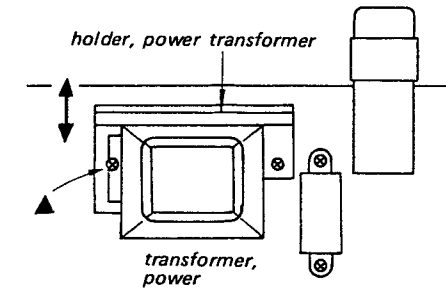

Fig. 9-11 Power transformer position adjustment
- (1) Playback the 2nd tone (400 Hz) of the SONY alignment tape J-19-F₁ or J-19-K₁ and be sure that the VTVM reading is 0 dB. If not, make the p.b. output level adjustment again.
- (2) Set the machine at 19 cm/s (7½ ips) tape speed in FWD mode with no tape, by pushing the shut-off lever with finger.
- (3) Be sure that the VTVM reading is less than -49 dB (3 mV).
- (4) S/N ratio will change by reversing the sense of motor and by moving the position of the power transformer. Therefore, select the connection of the joint terminals connected to the motor leads and adjust the position of the power transformer by loosening the screw marked with ▲ in Fig. 9-11 for the best S/N ratio.